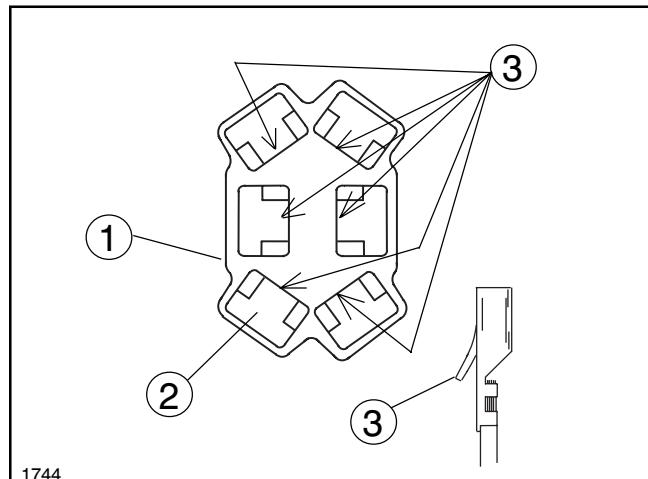

FIG. 6
- b.** Remove the wires/terminals from the 6-pin connectors using a small flat tip screw driver. Insert the tip of the screwdriver into a socket of the Connector from the side opposite of where the wires go in and on the side where the metal Tang of terminal locks into the connector. See FIG. 6. Press the Tang back completely and pull the wire/terminal from the socket.